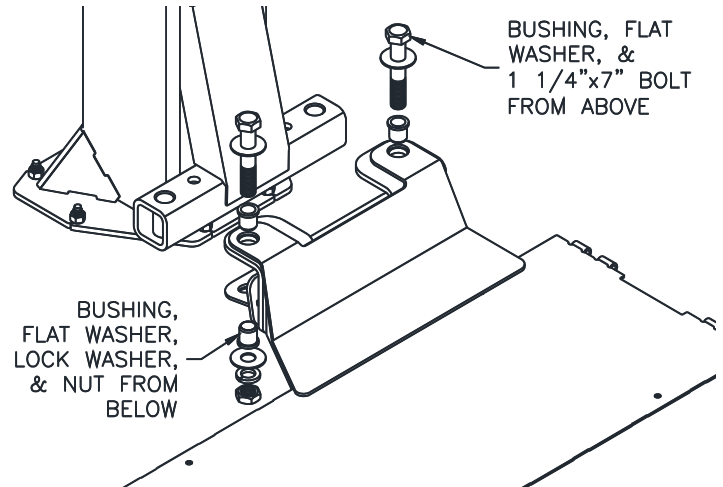

Fig. 3 ATTACHING MAIN STRUCTURES
3. Install the left and right Pad Adapter Main Structures as shown in **Fig. 3**. Note Pad Adapter orientation in **Fig. 1**. This 1 1/4" bolted connection should only be tightened to approximately **20 ft-lbs.** for now (tight enough to remove the gaps, but not so tight that it limits the ability to level the Pad Structures).